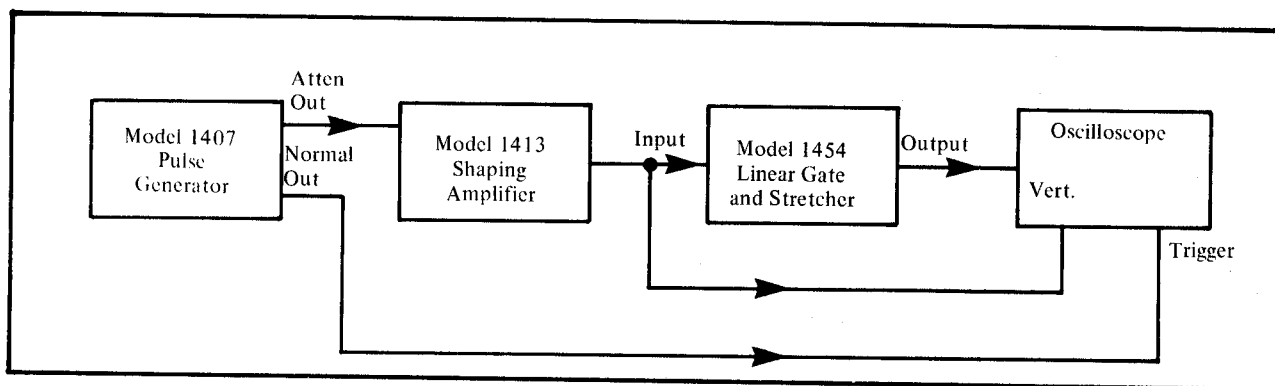

Figure 3-1. Test System Connections.
1. Insert the module in an AEC compatible base unit/power supply such as the Canberra Model 1400 and interconnect with other modules as shown in Figure 3-1. Turn on the Power switch.